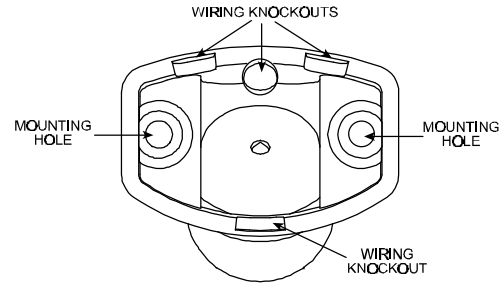

Figure 8. Bracket Base as Viewed from the Rear
- F. Punch out the selected wiring knockouts in the bracket (see Figure 8).